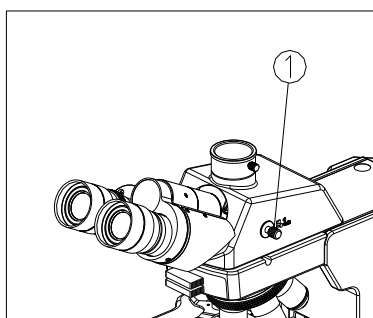

Fig. 21
For trinocular head, the light path selecting pole (1) control the light-energy ratio of binocular and trinocular. When the light path selecting pole is pushed to the innermost, all the light will enter the binocular head; when it is pulled to the outmost, the ratio of binocular and trinocular is 5:5. Usually, push the selecting pole to the innermost for binocular observation, and must pull the selecting pole to the outmost for trinocular observation (TV&Photography). (See Fig. 21)